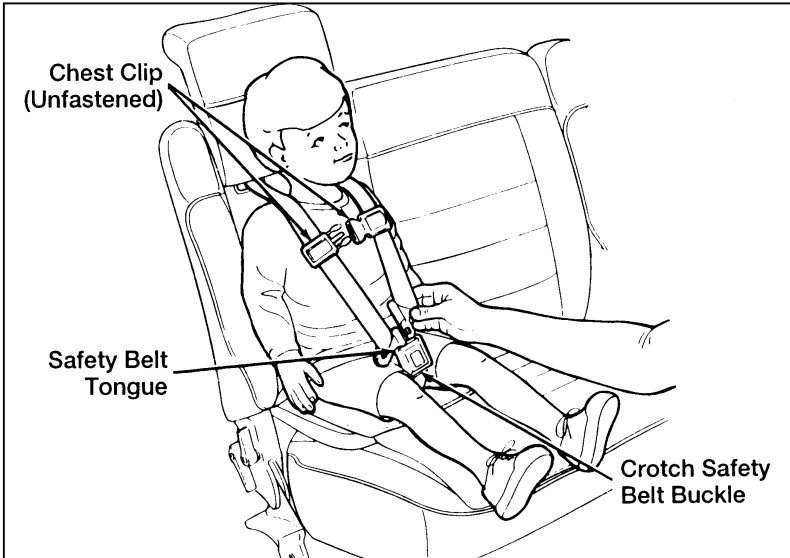

Figure 8: Fastening the crotch safety belt
7. Position the left shoulder belt over the child's shoulder and insert the left tongue into the buckle as shown in Figure 8. The color **green** must appear in the color indicator window on each buckled tongue.
2. Press release button on the crotch safety buckle. Refer back to Figure 8.